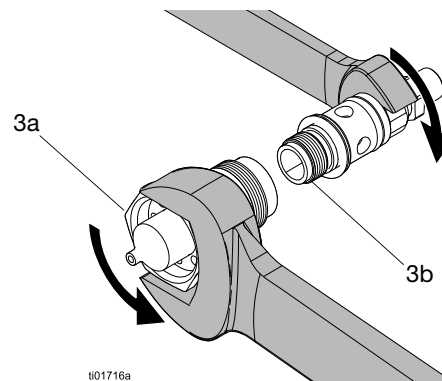

FIG. 23: Nozzle and Fluid Insert
4. Install the nozzle (3a) onto the fluid insert (3b). Torque to 120 in-lb (13.6 N•m). See FIG. 23.